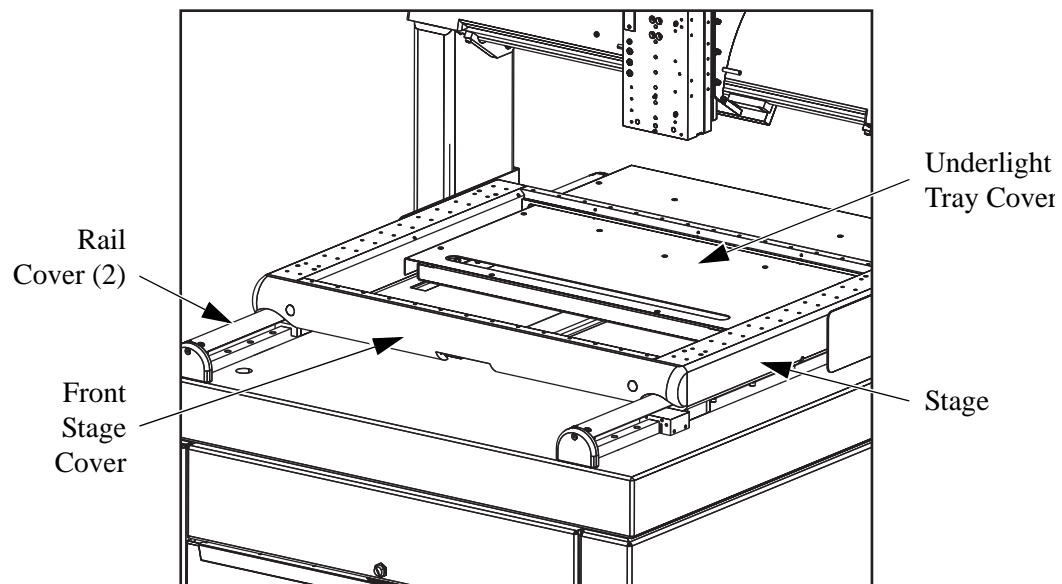

Figure 6-2 Removing the Front Stage Cover, Y-Axis Rail Covers, and Underlight Tray Cover
8. Use a 5 mm Allen wrench and a 3 mm Allen wrench to remove the front stage cover and both Y-axis rail covers (see Figure 6-2).